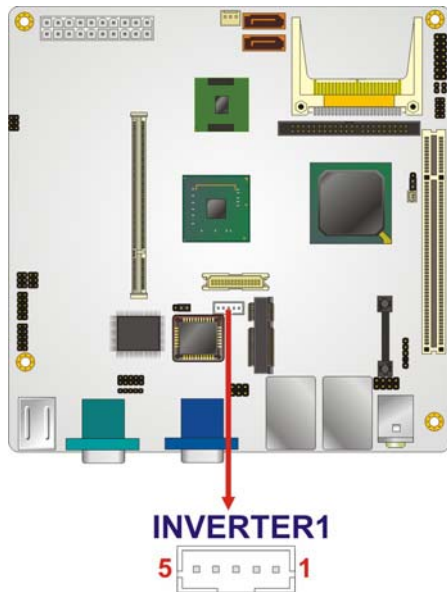

Figure 4-10: LCD Backlight Connector Pinout Locations
- CN Location:** See **Figure 4-10**